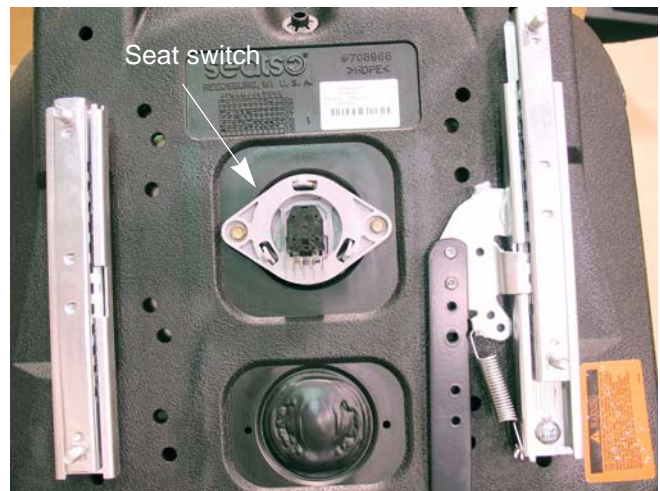

Figure 4.23
4. Remove the seat switch using a 3/8" wrench. See Figure 4.23.